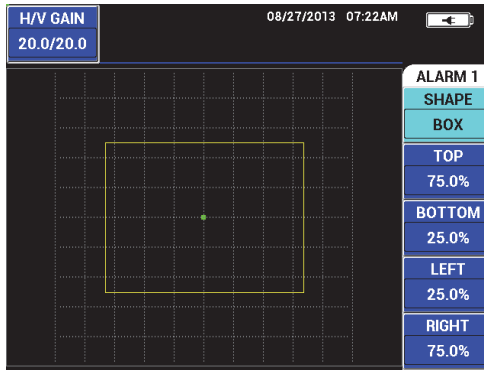

Figure 5-242 Alarm menu
2. Press the A key to highlight the alarm **SHAPE**, and then use the knob to select the desired alarm type: **BOX**, **SWEEP**, **SECTOR**, or **POLAR** (see Figure 5-242 on page 301).